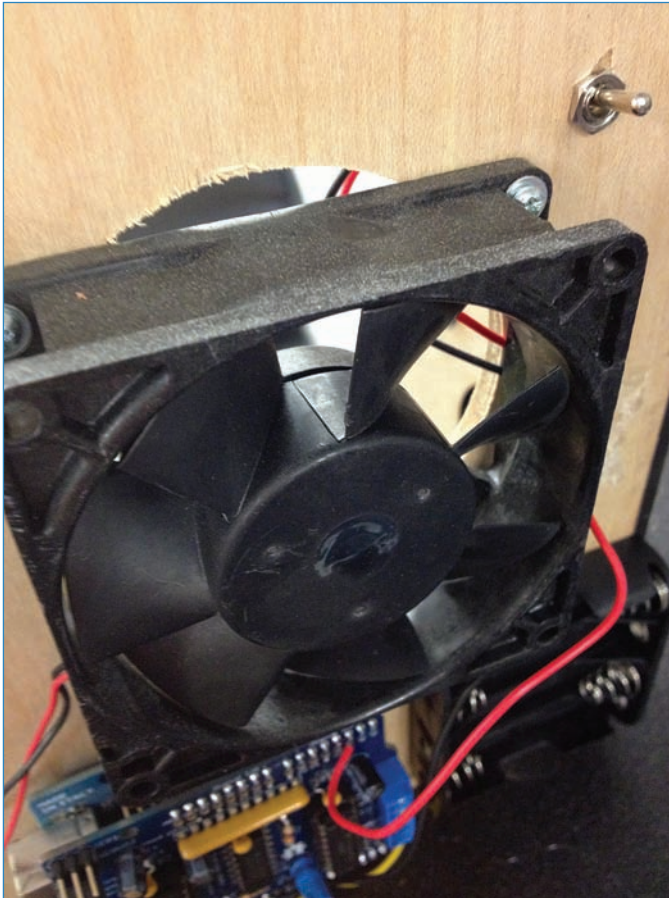

FIGURE 13.16 Attach the computer fan to the back panel of the enclosure.
8. Attach the computer fan (see Figure 13.16) to the back of the chassis using the #4 × 1" screws, washers, and nuts.